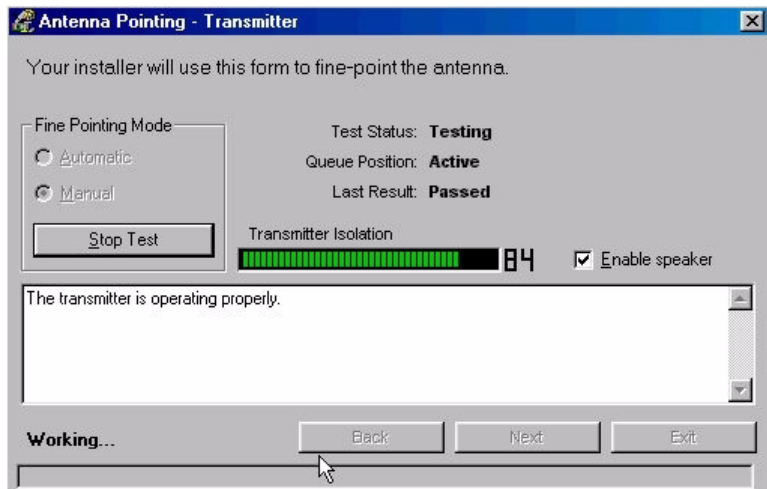

Figure 28: Manual cross-pol passed; select Stop Test
15. After the antenna is bolted, select Stop Test. See Figure 28.